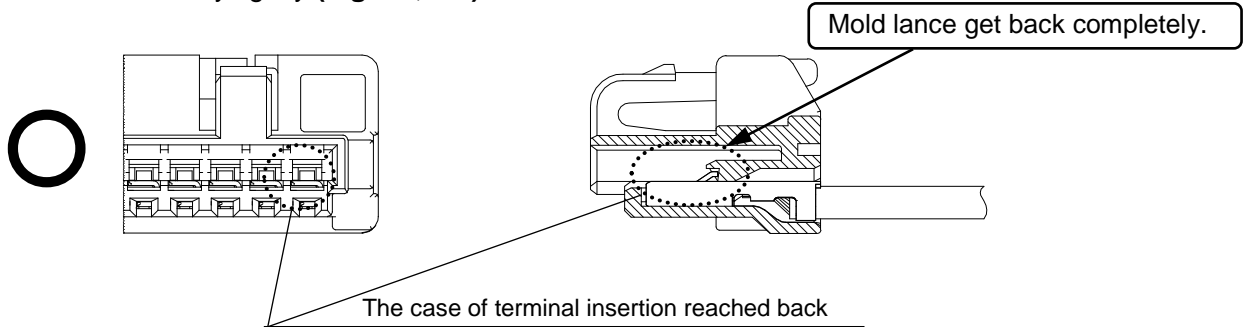

Fig.6-4 The case of correct insertion
- ④ After inserting the terminal, please confirm if terminals are not pulled out from receptacle housing by pulling wires lightly (with about 100g force, in order not to damage connector.)
- ⑤ After inserting all terminals, please confirm the position of terminal lance part by seeing through window of plug mold lance. If they are inserted correctly, terminal lance is at the position where terminal lance get over mold lance properly and you can confirm clearance by shaking them insertion axially lightly.(Fig.6-4, 6-5)